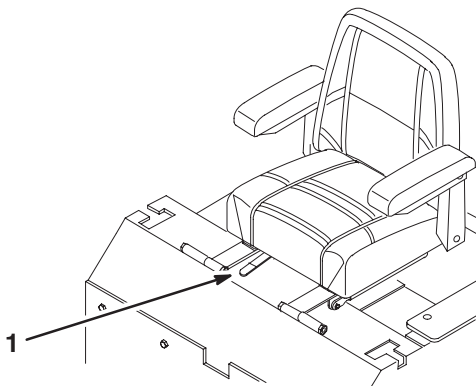

Figure 25
- To adjust the cam locks, swing the lever up to loosen the cam lock (Fig. 25).
1. To adjust, move the lever sideways to unlock the seat (Fig. 25).